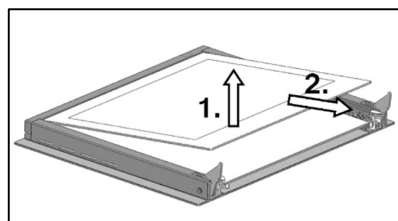

Figure 16
- Gently lift up the inner pane and remove it (Figure 16)